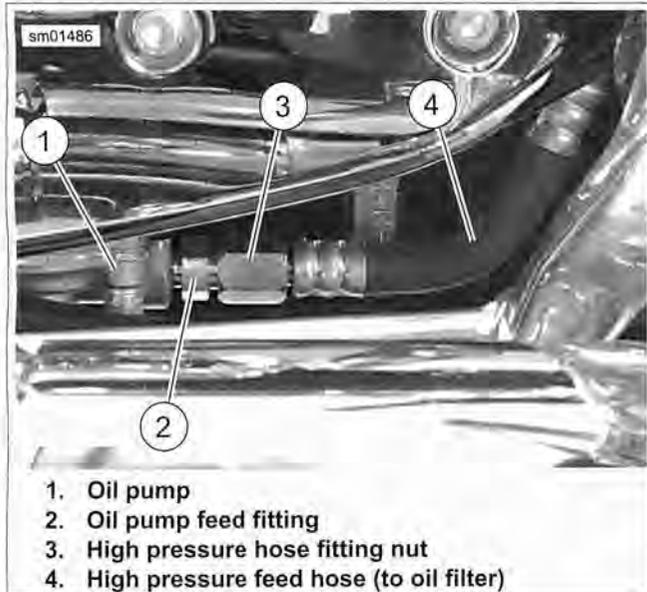

Figure 3-132. Oil Pump Feed Hose
See Figure 3-132. Do not remove oil pump feed fitting (2) from the pump (1). Hold oil pump feed fitting and loosen large high pressure hose fitting nut (3). Then remove high pressure hose (4) from oil pump feed fitting.
2. See Figure 3-132. Remove high pressure feed hose (4) from oil pump (1).
3. Install hoses on oil pump. Attach oil tank feed hose to hose fitting (5) with **new** clamp. Attach oil tank vent hose to elbow fitting (13) with **new** clamp.
4. See Figure 3-132. If oil pump feed fitting (2) was removed for any reason, install fitting in oil pump (1) cover. Tighten to 100-120 **in-lbs** (11.3-13.6 Nm).
5. If high pressure feed hose (4), was removed completely, install end opposite high pressure fitting nut (3) in crankcase. Tighten to 60-90 **in-lbs** (6.8-10.2 Nm).
6. Install high pressure feed hose fitting nut (3) onto feed fitting on front of oil pump. Hold oil pump feed fitting with a wrench and tighten high pressure hose fitting nut to 85-105 **in-lbs** (9.6-11.8 Nm).